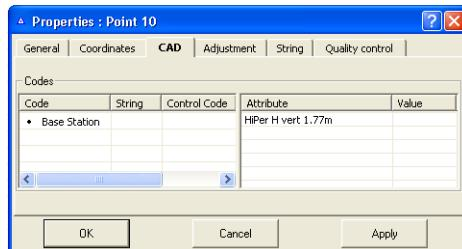

Figure 4-10. Point Properties - CAD tab
- After importing this coordinate file to a job, the following information is displayed (Figure 4-10) for this point in the *CAD* tab: